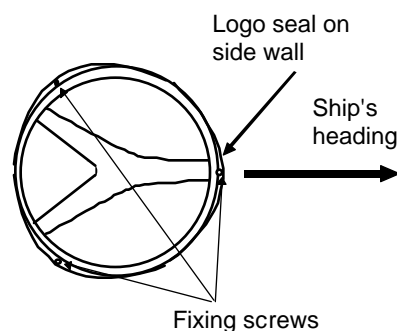
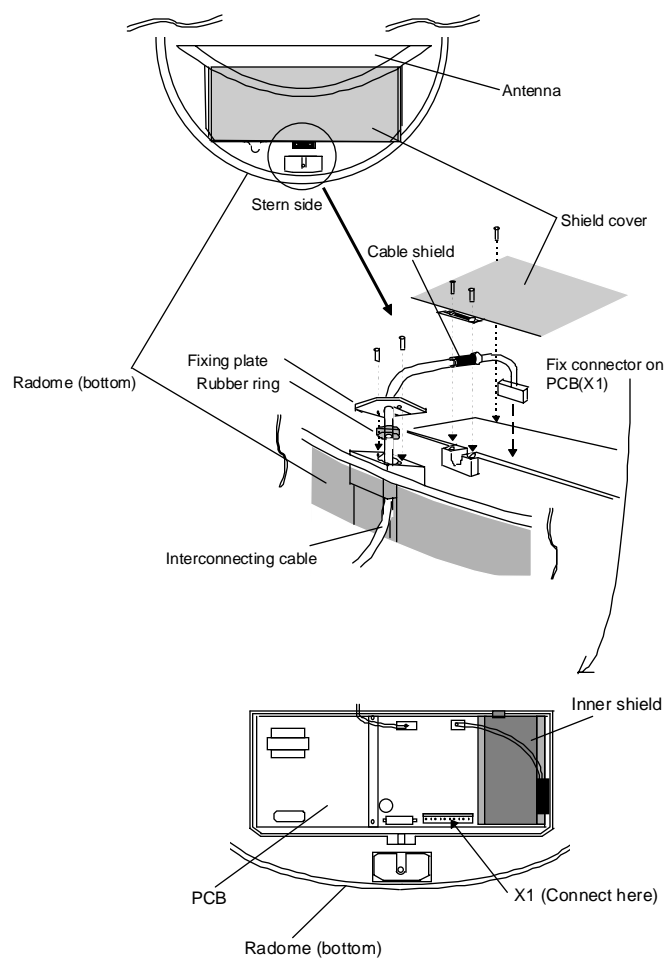

Fig.3-7-1 Fitting Cover (RA40C)
Fig.3-8-1 Fitting interconnecting cable (RA40C)
3.7.0 Interconnecting cable (RA40C Radome scanner) (See Fig.3-8-1)
- ① Ensure that the radar is off. Connect the cable to the receptacle labeled "SCANNER" on the rear panel of the display unit.
- ② Next, remove the upper part of the radome from the scanner unit. Avoid bumping it against the antenna by lifting vertically. (There are three fixing screws.)
- ③ Remove the tape fixing the antenna.
- ④ Remove the shield cover located on the astern side. (There are three fixing screws.)
- ⑤ Remove the cable clamping plate and rubber ring, pass cable through the introduction opening, put the rubber ring from both ends of it, and clamp the cable to the scanner unit with screws via the fixing plate. Plug the connector fitted to the cable into the X1 connector on the PCB.
- ⑥ Replace the aluminum cover. At this time, attach a cable shield onto a ditch with the aluminum cover. However, be careful that the cable will not be caught up between the main unit and cover.
- ⑦ Replace the upper part of the radome. Be careful not to bump it against the antenna in the same way as when removing it. Make sure that the cover is fitted in the correct direction as shown in Fig.3-7-1. The upper and lower parts of the radome each have three markings indicating screw positions. Align the upper and lower positions as you mount the radome.